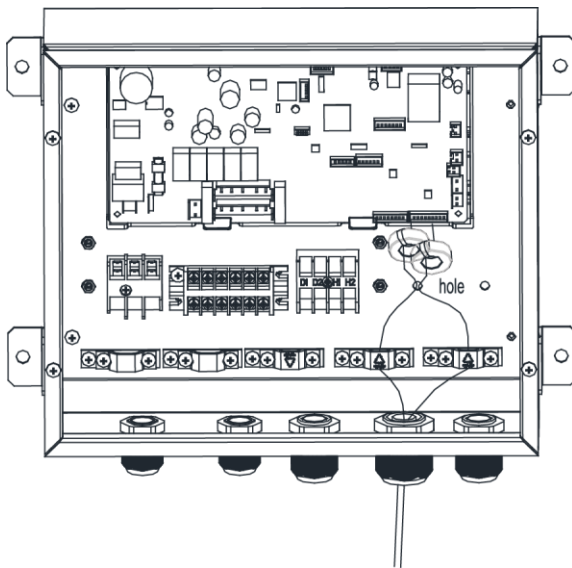
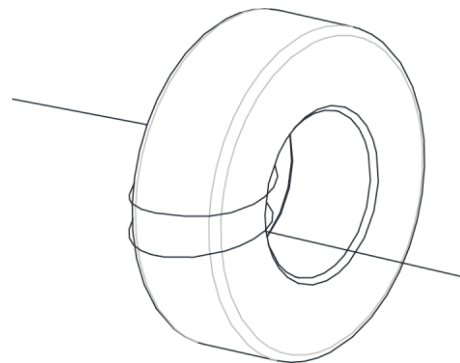

Fig.1
Fig.2
- (1) Making the cable terminal through the Cable-Cross Loop (Fig.1), and then winding the cable on the magnetic ring for three times(Fig.2), at last inserting the terminal into a corresponding slot(see circuit diagram).
- (2) Using bundles to fix the magnetic ring is required. It's also need to insert the bundle into the reserved hole on the control box.
- (3) Fixing the cable with the wire clamp, and tightening the Cable-Cross Loop.